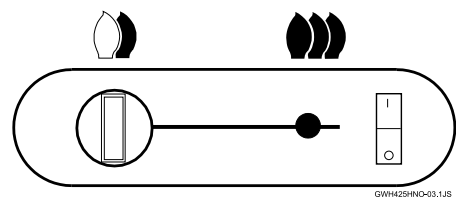

Fig. 11
- ▶ Turn off the manual gas shut off valve on the supply line to the heater. See Fig. 11.
- ▶ Turn power switch to the off (O) position.
- ▶ 1. Check the On/Off switch to be sure it is in the ON (I) position. See fig. 11.